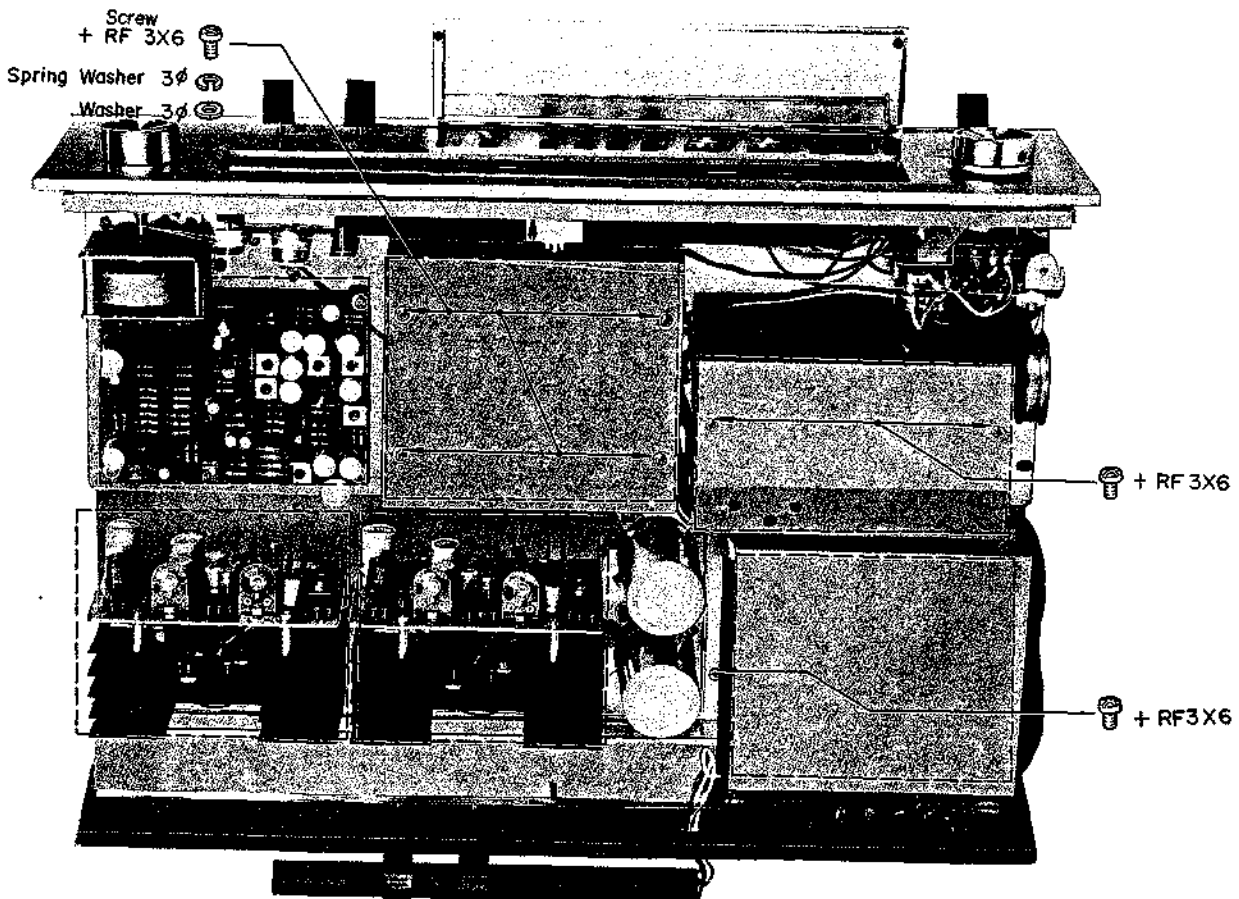

Fig. 2-6
- (b) To remove the shield cover for the Front End section, remove two Phillips-head screws (+ RF 3 $\phi$ x6) and lift off. See Fig. 2-6.
section, remove four Phillips-head screws (+ RF 3 $\phi$ x6) and lift off the shield cover. See Fig. 2-6.